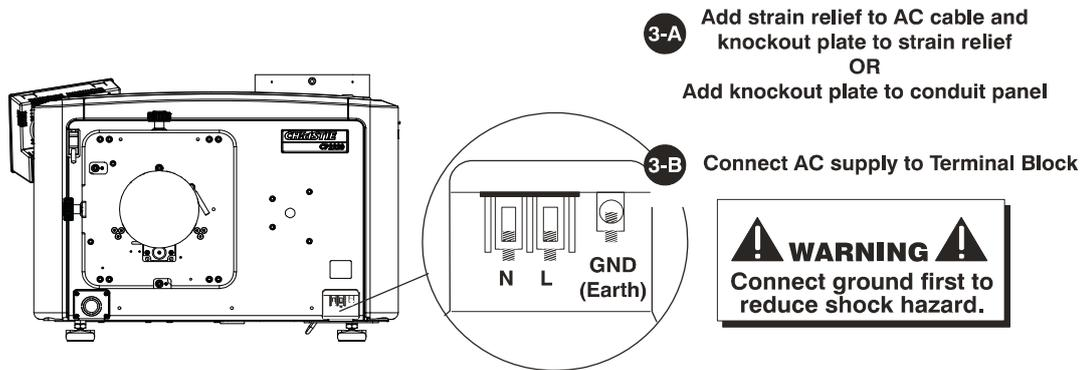

Figure 2-11
- Connect the AC power source to the terminal block, beginning with the ground lead first. See **Figure 2-11** for wiring details. Use an appropriately sized strain relief connector with the knockout plate provided to ensure adequate environmental sealing and to prevent the cables from wear and accidentally being torn out. **NOTES: 1)** *The terminal block accommodates up to an 8 AWG wire.* **2)** *If desired, a 90° strain relief connector can be used to route the power cable in a downward direction.*
4. Connect the AC power source to the terminal block, beginning with the ground lead first. See **Figure 2-11** for wiring details. Tighten screws securely.